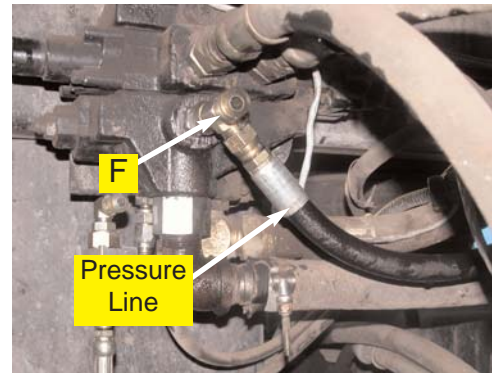

Figure 3a. Installed run tee.
- a. The Automated Steering Block will receive pressure and load sense connections from the priority valve located inside the left frame at the rear of the machine. Install one of the run tees (F) into the pressure line that leads to the steering orbital. (Figure 3a.)
NOTE: Use plastic caps on open ports to prevent excess leakage. (Figure 3a.)
- b. Locate the steering orbital load sense line on the bottom of the priority divider and disconnect it. (Figure 3a.)